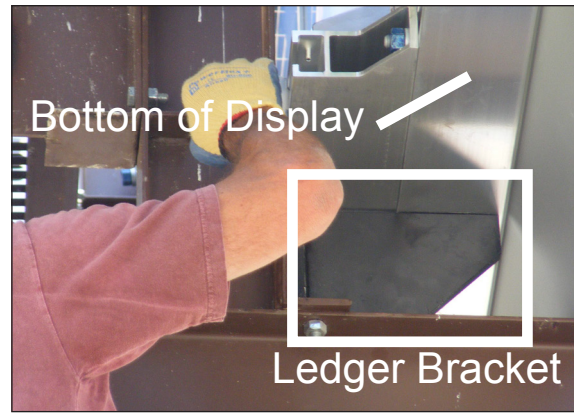

Figure 5: Display Resting on Ledger
Note: The support ledger is provided by the customer prior to display installation. Refer to **Figure 5**.
18. Verify the display is resting on all ledger brackets. If the display is not resting on all ledger brackets, shim the ledger bracket until it is in contact with the display. Refer to **Figure 5**.